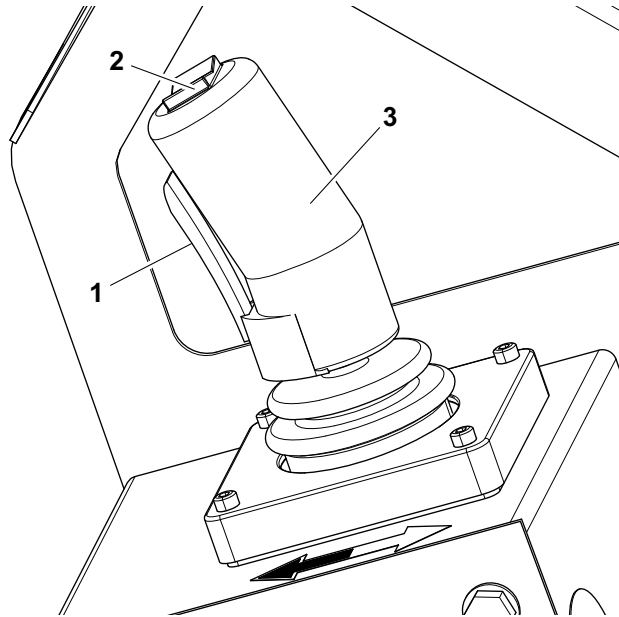

Figure 3-7. Platform Control Components
(Item 2 - Figure 3-7.)
(Item 1 and 3 - Figure 3-7.)
4. Squeeze and hold the trigger switch, and move the joystick back (platform up - white arrow direction) or move the joystick forward (platform down - black arrow direction) and hold until desired elevation is reached. Releasing the trigger switch or moving the joystick back to it's center position will stop the function being operated. (*Item 1 and 3 - Figure 3-7.*)